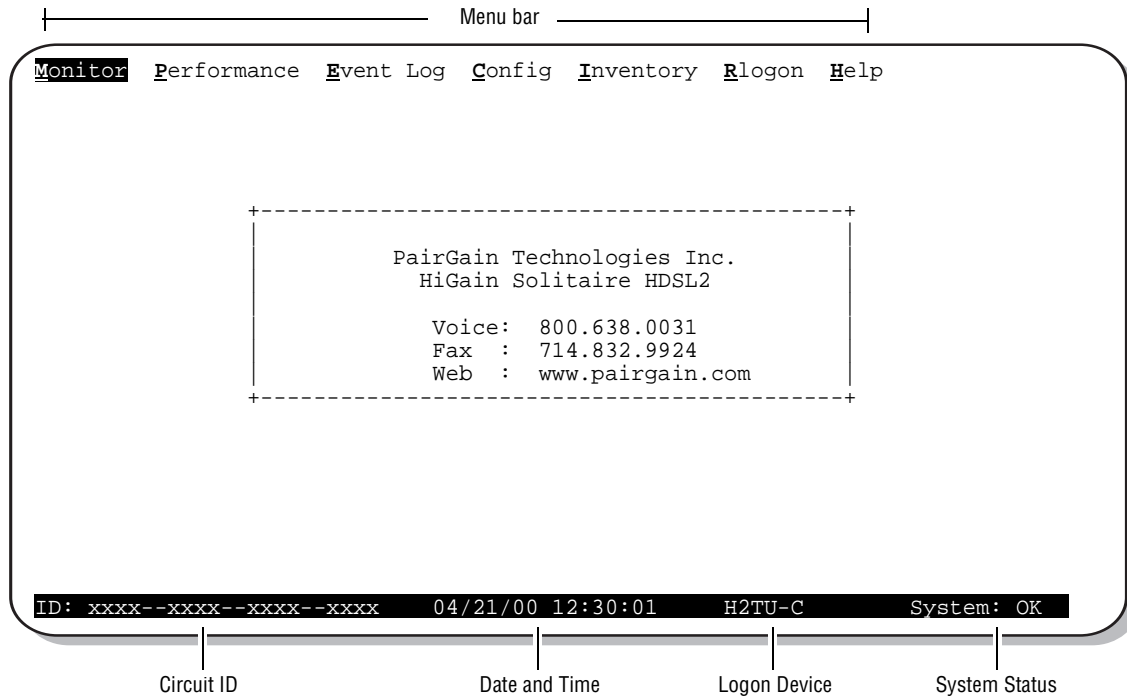

Figure 4. Logon Screen
- Use a maintenance terminal (VT100 terminal or a PC running terminal emulation software) connected to the H2TU-C craft port (or to an HMU craft port) to access the HiGain Solitaire HDSL2 maintenance screens (Figure 4 on page 14). This gives you full access to all H2TU-C status, history, inventory, and provisioning screens.
To select a menu from the HiGain Solitaire HDSL2 logon screen (Figure 4 on page 14), do one of the following: